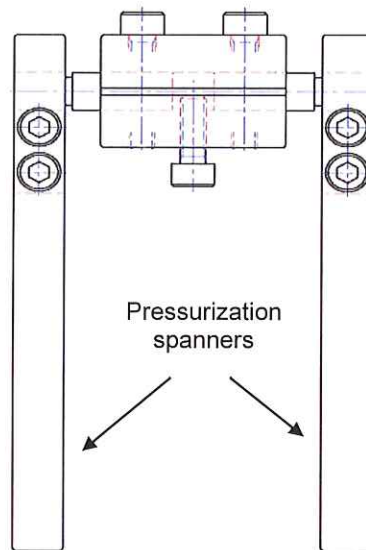

Fig 9 Setting the pressurization spanners
- 3) Attach the custom spanners to the pressurization nuts (fig 9).